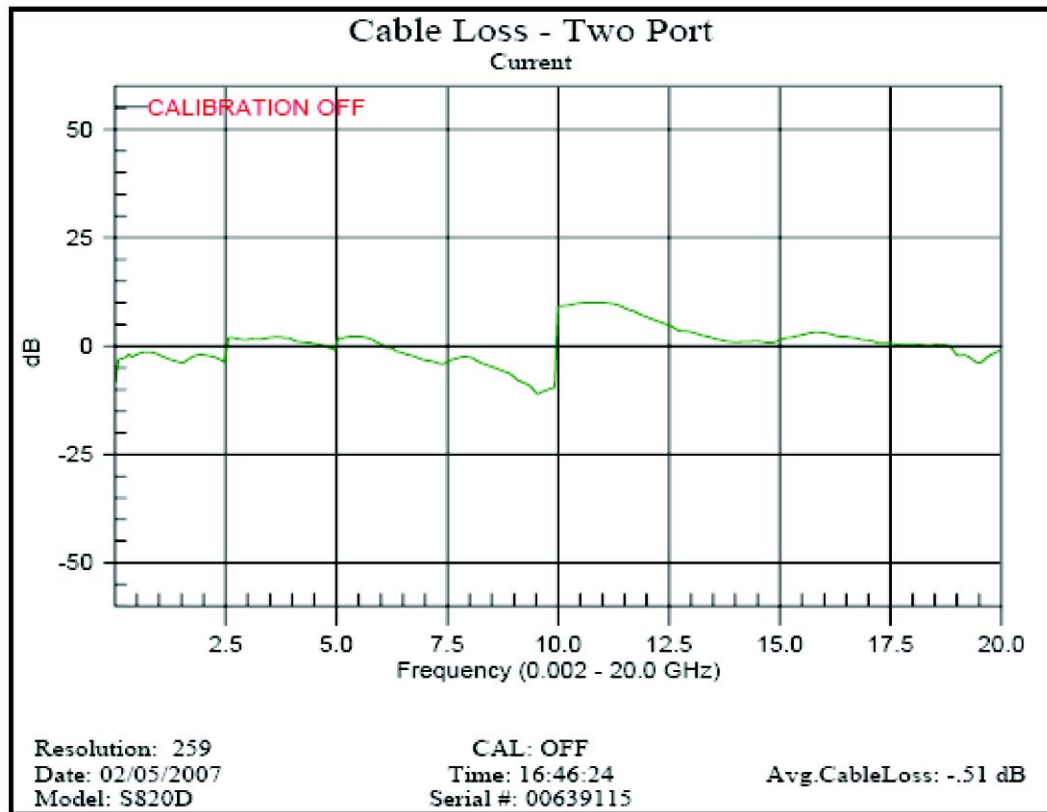

Figure 2-8. Cable Loss Two-Port Typical Waveform
11. Observe that the waveform displayed resembles the display shown in Figure 2-8 below.